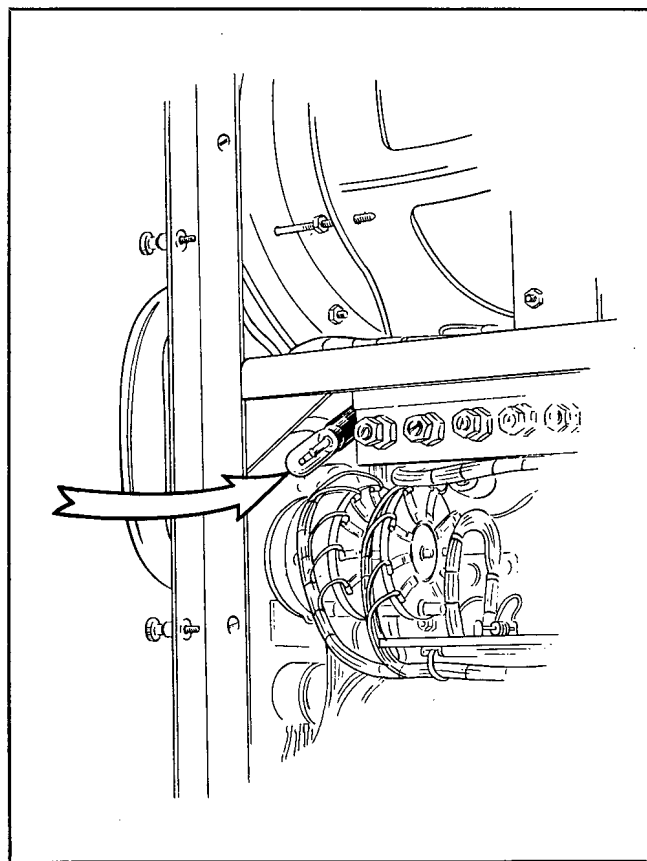

Figure 5-15. Dial Lamp Behind MILES Window on PPI Indicator
c. To replace the dial lamp behind the MILES windows, unscrew the eight panel thumbscrews and slide the chassis out until it locks. The dial lamp is accessible from the right-hand side as shown in Fig. 5-15. After replacing the lamp, release the chassis lock by pressing the pushbuttons, and slide the chassis back into the case. All other lamps are replaced by unscrewing the jewel over the lamp and twisting the bulbs out of and into the sockets.